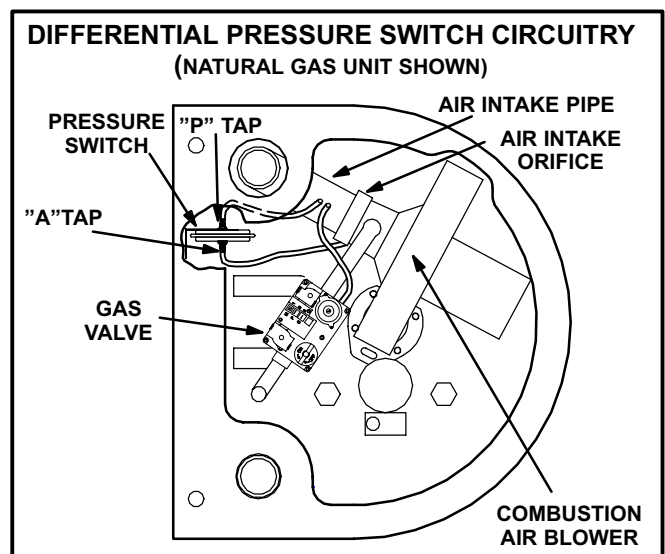
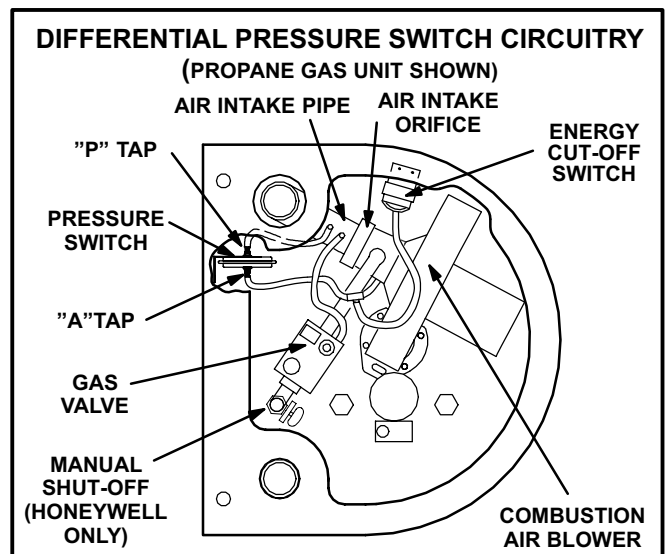

FIGURE 26
FIGURE 27
After line pressure has been checked and adjusted, check the gas manifold pressure. Normal gas manifold pressure for the HM30 unit is 0.3" w.c. (74.6 Pa). This reading is taken by performing the procedure below. See figure 26 for natural gas or figure 27 for propane differential pressure switch hose circuitry.
- 4 - When measurement is completed, disconnect hose and reconnect as shown in figures 26 or 27.